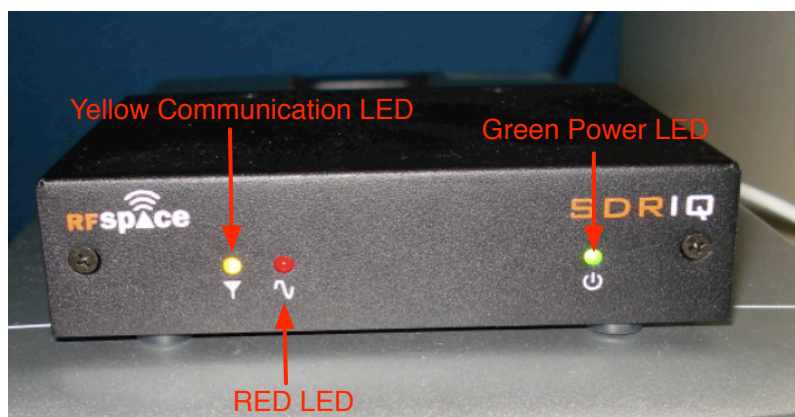

Fig 9: LED indicators on the SDR-IQ
2.10 If the USB driver is recognized properly, then the green power LED on the SDR-IQ will glow as in Fig. 9. The yellow communication LED will start blinking very slowly indicating that SDR-IQ is in idle mode. Also, when you initially plug in the SRD-IQ you may hear a clicking noise and the red LED may also turn on a couple of times as in Fig 9. Do not worry as the red LED will turn off and the clicking noise will stop after couple of seconds.